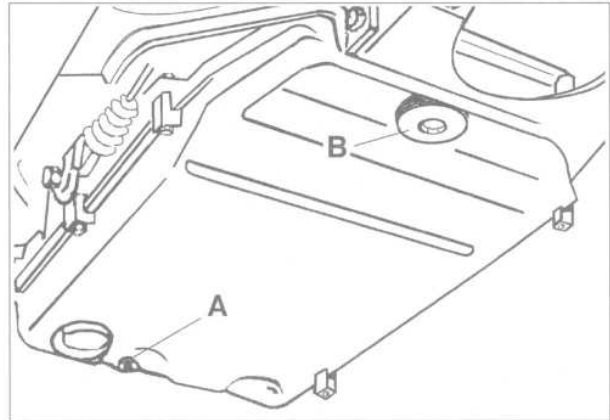

Fig. 28. Drain plug (A) and fill plug (B) on A5S 310Z transmission.
1. Remove drain plug and drain fluid into container. See Fig. 28.